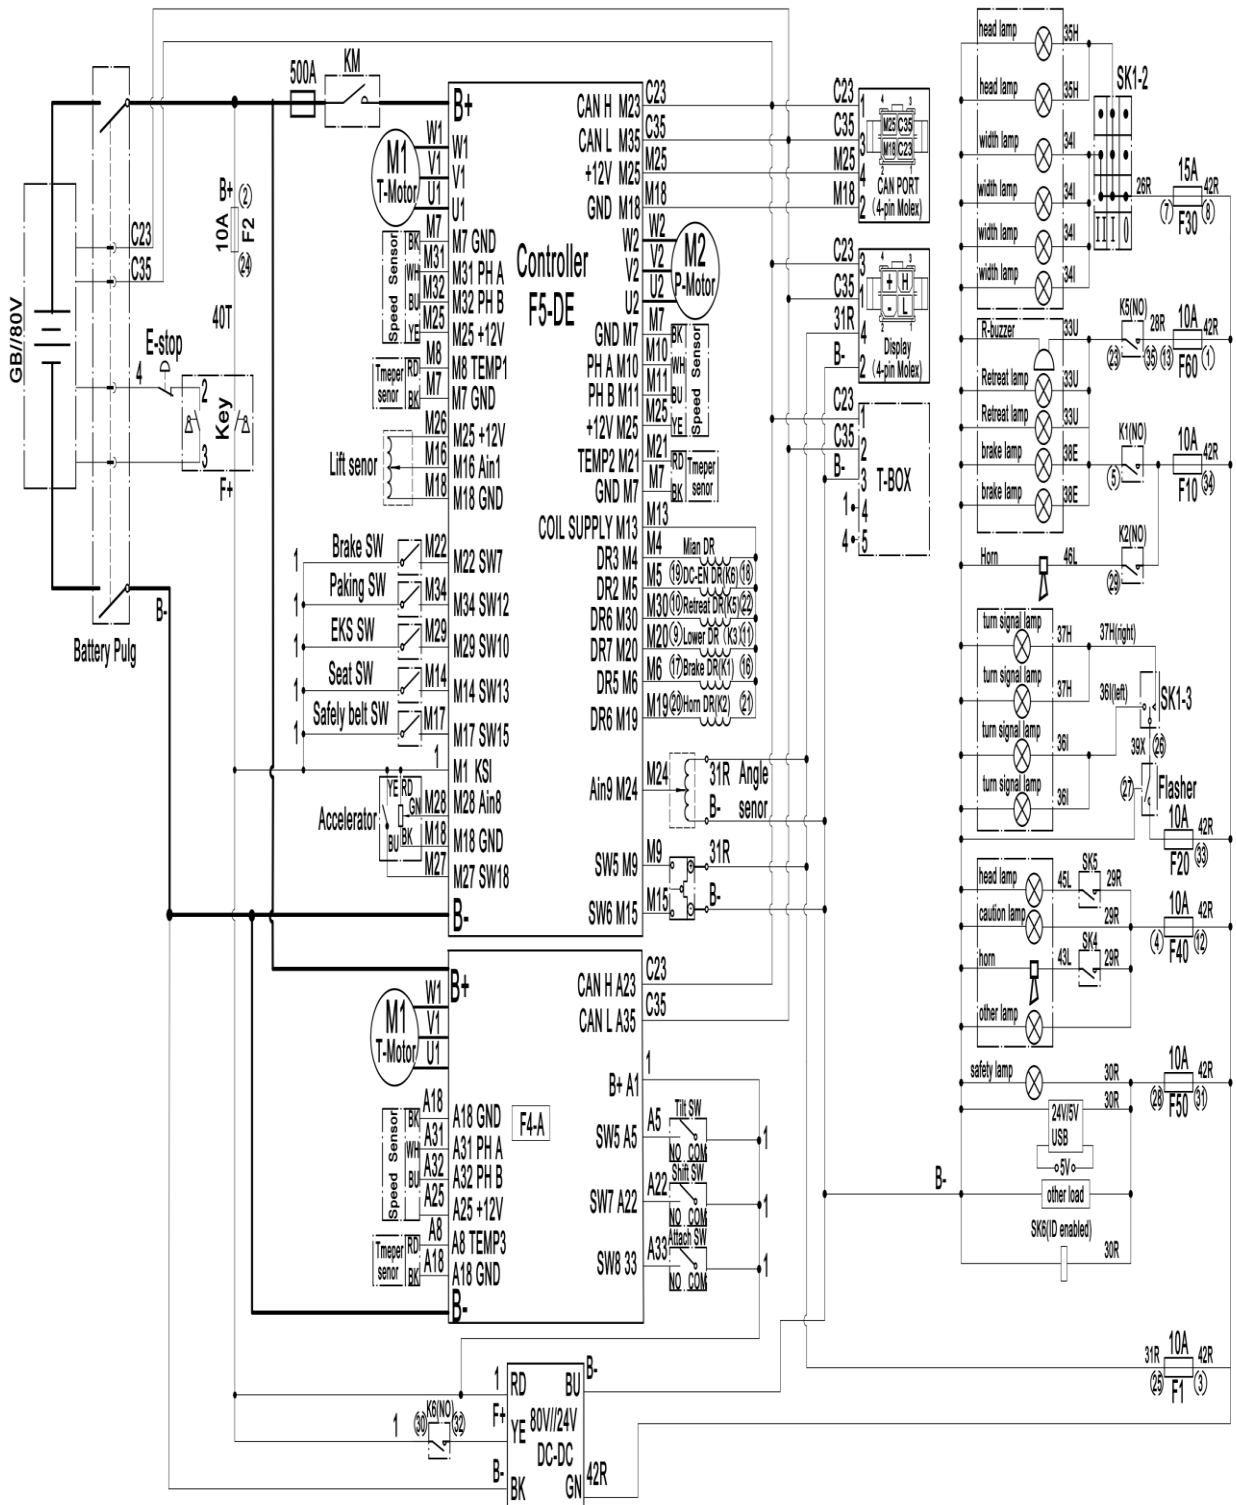

Figure 2-12 Electrical schematic diagram—Curtis
4.2.1 Electrical schematic diagram—Curtis(Figure2-12)